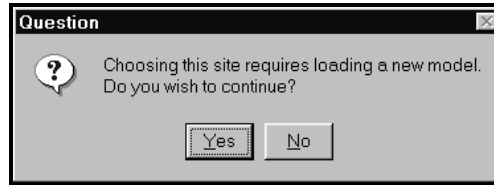

Figure 5-2. Question Dialog
- When you click OK on the Map Info Window a Question dialog appears telling you that the desired model must be loaded, Figure 5-2. Choosing Yes will automatically load and display the correct component in the DBMS screen.